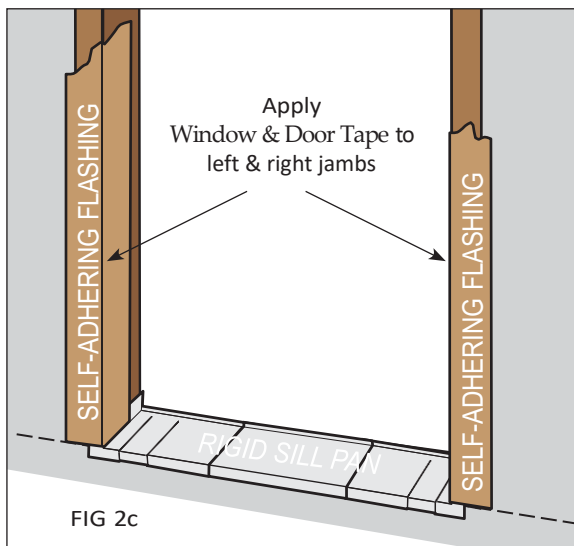

FIG 2c
- Apply Window & Door Tape to jamb RO integrating the WRB with the RO and sill pan. (Fig 2c)